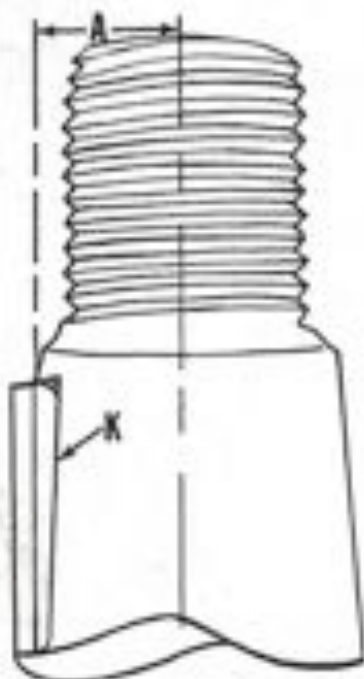

Fig. 354—When installing flywheel on 40 hp motors, make sure outer edge of key (K) is parallel with centerline of crankshaft as shown at (A).
BAR AND DISASSEMBLE. To overhaul the power head, clamp the motor on a stand or support and remove the shroud, control panel, intake silencer, and lower cover pan. Remove starter unit or units, flywheel, magneto armature plate, carburetor and inlet manifold. Refer to Fig. 354.
FLYWHEEL. When installing the flywheel on 40 horsepower motors (1955 and later), turn the key (K—Fig. 354) so that outer flat edge is parallel with center line of crankshaft as shown at (A). Improper installation of key may prevent tightening of flywheel on crankshaft taper, resulting in possible damage. Tighten the flywheel retaining nut to a torque of 100-105 ft.-lbs. on these models.